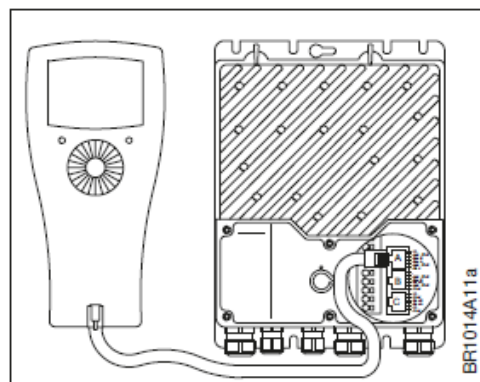

Fig. 4-1:
- The NI-DV range can be connected to an OJ-DV Hterm hand terminal via Modbus RJ12 connector "A". See fig. 4-1.